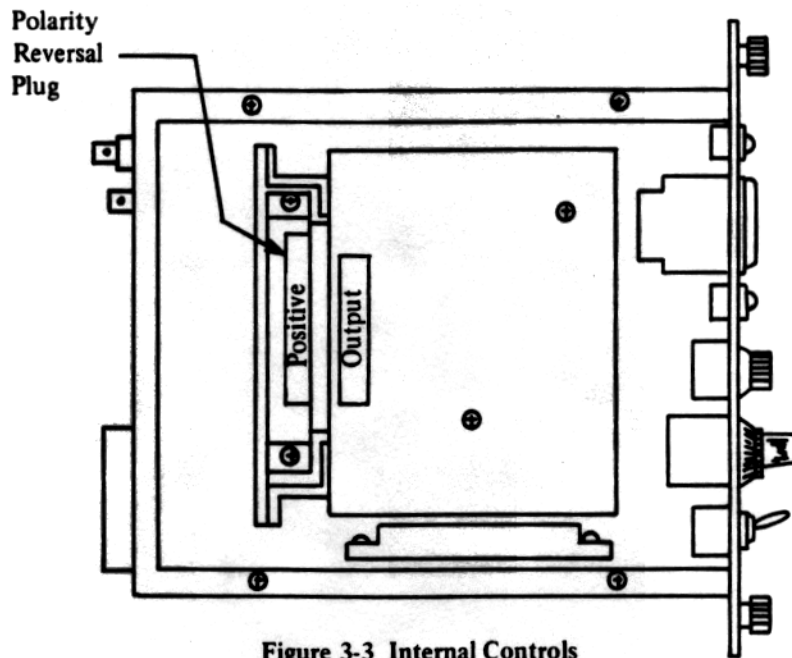

Figure 3-3 Internal Controls
3.4 INTERNAL (Refer to Figure 3-3)